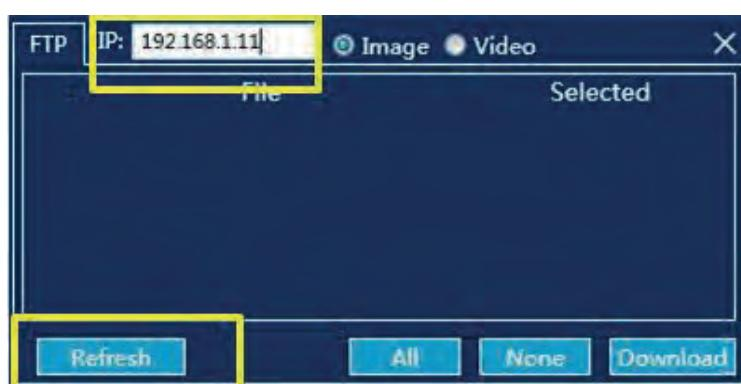

Figure 3-3
3. Open the infrared analysis software, click “Data Import” - “FTP” - “Local”, enter the device IP address, and click the bottom “Refresh” in the left corner, so that the list automatically shows all pictures stored in the device. Check the target picture, and click the button “Download” so as to import the selected picture into the specified directory of the machine (if the user doesn't know the storage path, please enter the “Settings” - “Other” - “Picture Storage Path” of the software to view). See Figure 3-3: